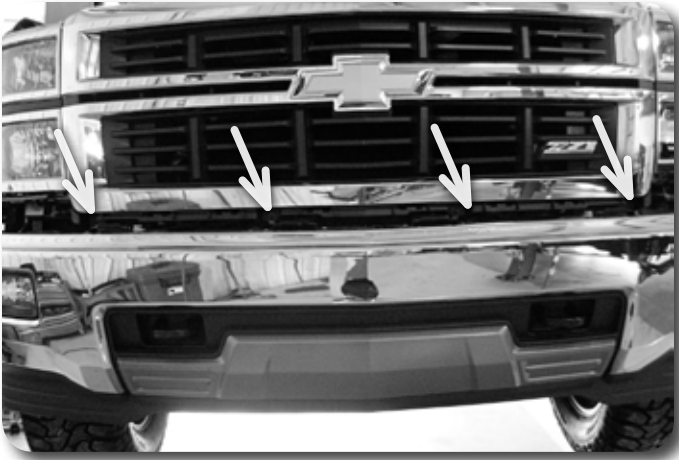

Figure 5
- With the valence removed, the 4 lower grill mounting bolts are accessible. Remove these bolts and remove the grill from the vehicle. Figure 5